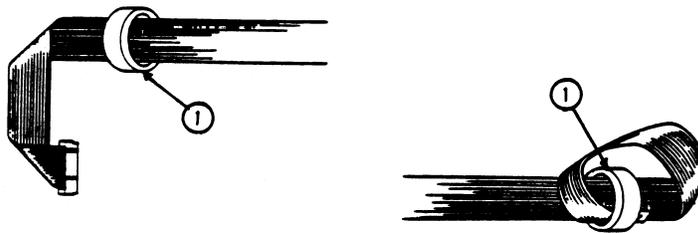

FIGURE 3
1. Place the two toroids onto one end of the replacement cable, looping the cable through the toroids. Leave about three inches of cable between the toroids and the connector (see Figure 3, #1).